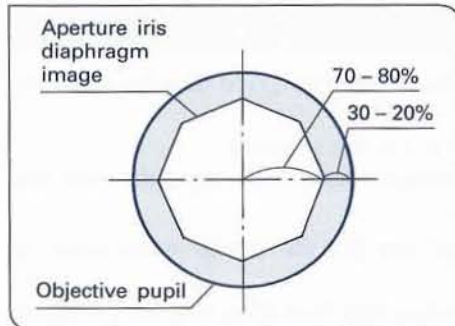

Fig. 41
(Figs. 41,42)
- Since the contrast of microscopic specimens is ordinarily low, setting the condenser aperture iris diaphragm to 70~80% of the N.A. of the objective in use is usually recommended. When necessary, adjust this ratio by removing the eyepiece and peering into the eyepiece sleeve to see the image shown in Fig. 41.